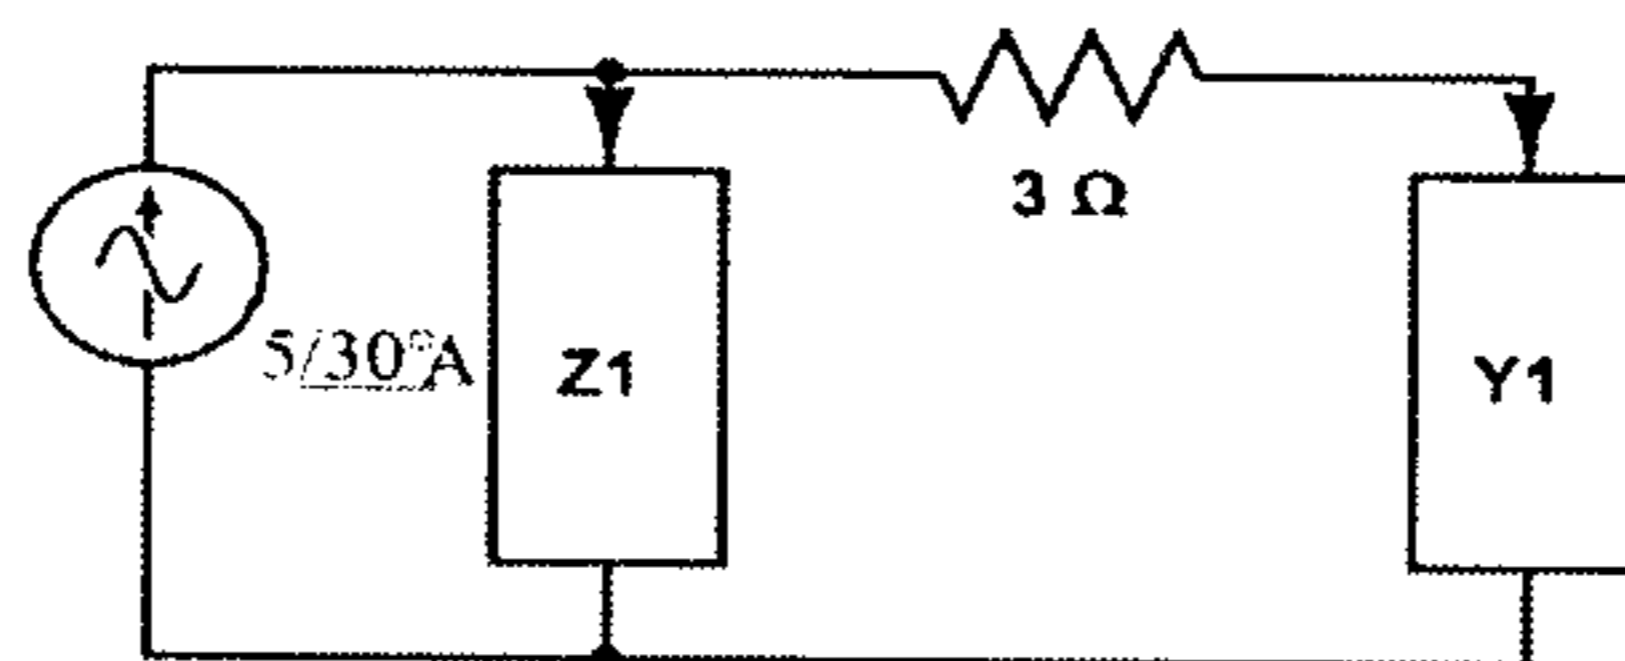

Fig.4
c) If $Z_1=2+5j\ \Omega$ and $Y_1=0.1-0.3j\ S$ then what is the average power dissipated in 3Ω resistor? The circuit is shown in Fig.4 below. 5 M